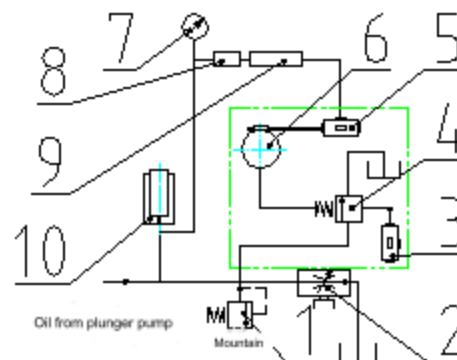

Figure 4 Load control principle diagram
As shown in Figure 4, the oil from the plunger pump enters the loading cylinder (10) all the way, enters the relief valve (4) all the way back to the oil tank, and returns to the oil tank through the manual throttle valve (2). The overflow valve (1) is for safety valve. The reversible motor (3), relief valve (4), AC servo motor (5) and worm gear nut screw reduction device (6)